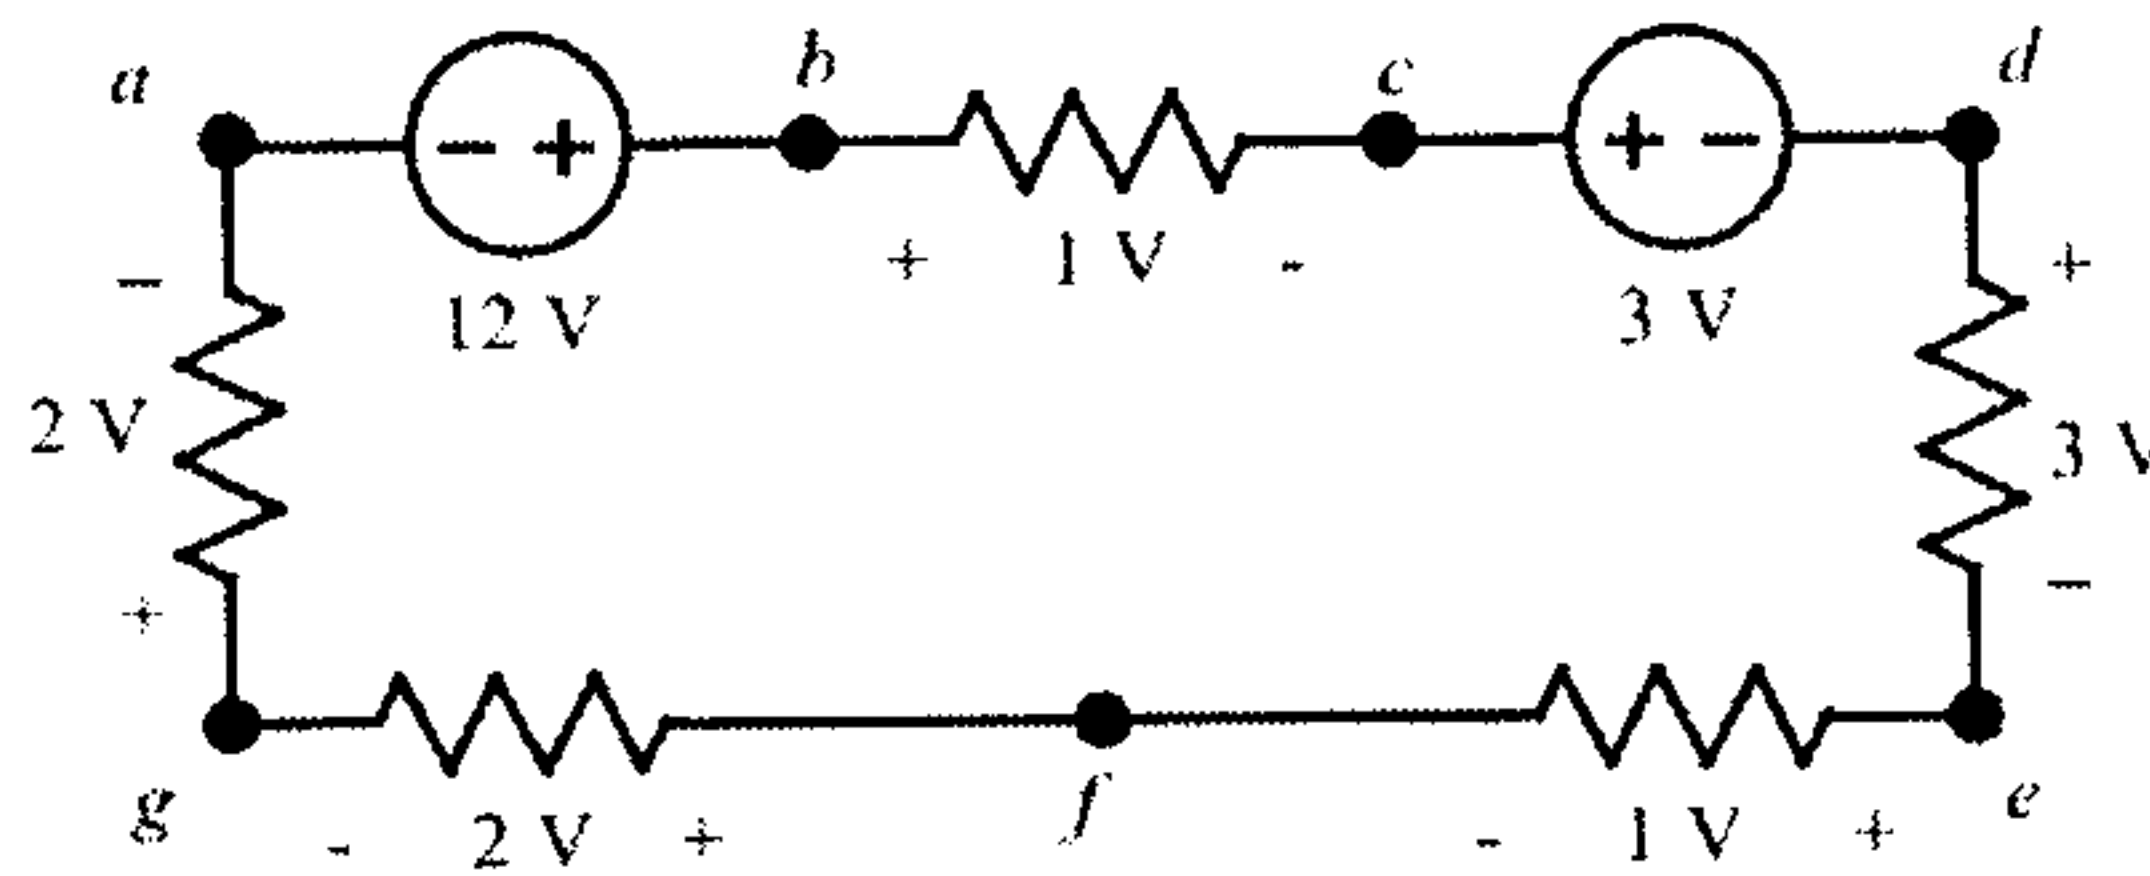

Fig.1
1. a) Find the voltage value between f and b (V_{fb}) for the circuit shown in Fig.1. below 5 M